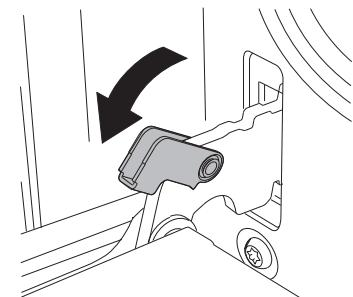

Fig. 1
1. Open the door to the maximum possible position. Pull the „buckle“ on the door hinge backwards (Fig. 1).